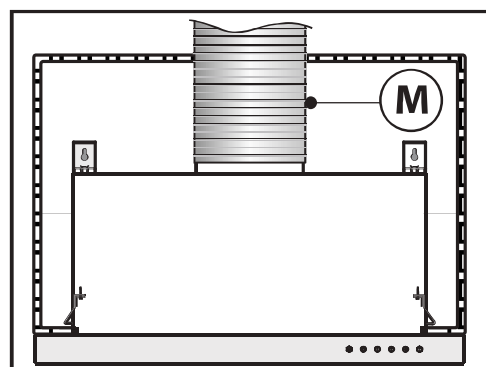

Fig.8
• In the **FILTERING** version it is necessary to apply a metal air exhaust tube **M (Fig.8)**, with a minimum length of 15", connected to the flange of the collector. It must be positioned vertically and fastened to a specific opening made on the top part of the cabinet.